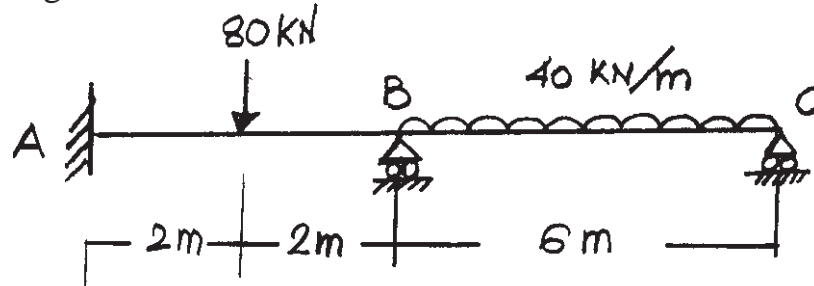

FIGURE 2(b)
- b) A prismatic beam ABC is loaded & supported as shown in fig. 2(b). Using member approach, analyse for nodal unknowns & hence draw B.M. diagram. [12]